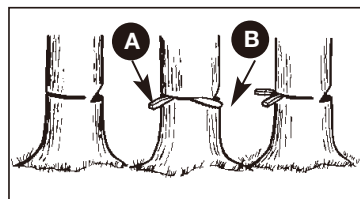

Fig. 11C
1. Use wooden or plastic wedges **A** to prevent binding the bar or chain **B** in the cut. Wedges also control felling (Fig.11C).